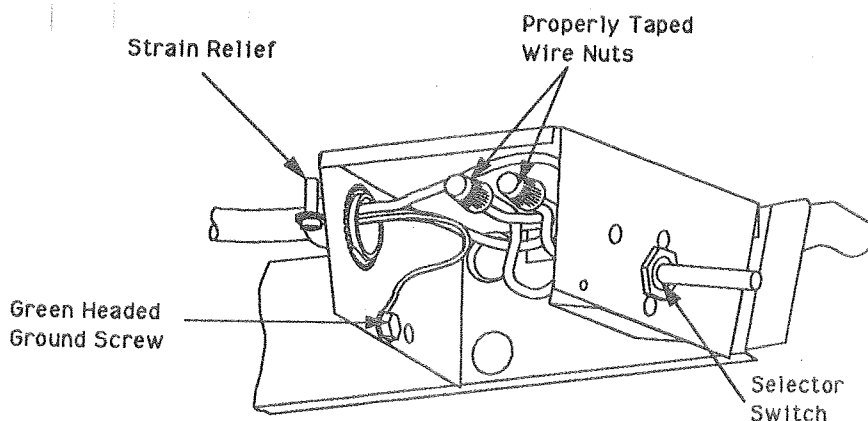

FIGURE 9
D. Connect the 115 V.A.C. power line to the black and white pigtail wires found in the control box using two wire nuts. **IMPORTANT** - Connect black wire to black wire and white wire to white wire. Install the 115 volt ground wire (green or bare copper) to the green headed screw in the selector switch control box. Using a U.L. approved electricians tape, secure the wire nuts to the wires in a workmanlike manner (see Figure 9).